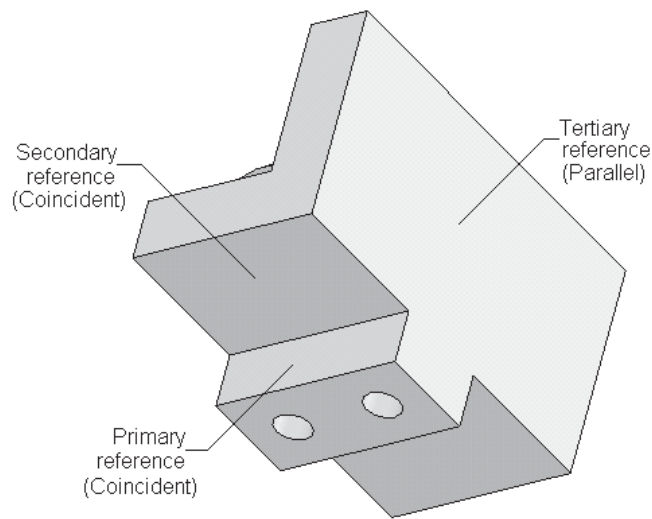

Figure 11-55 Faces to be selected as mate references
12. Similarly, create the mate reference in the Vice Jaw part document. The faces to be selected as reference are displayed in Figure 11-55. The name of the mate reference in the **Reference Name** rollout should be the same in both part documents.